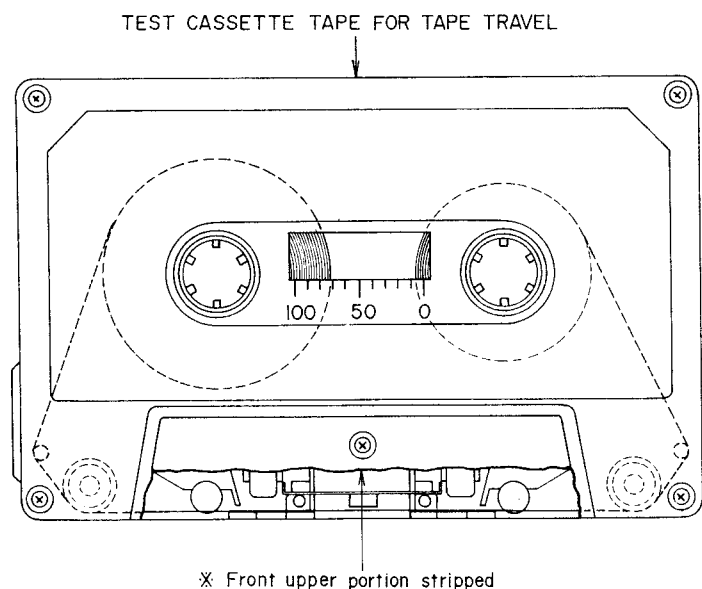

Fig. 5
- 1) When using an ordinary cassette, the tape guides and heads, etc., are not visible. As shown in Fig. 5, use a cassette tape from which the upper part of the cassette case has been stripped off for easy visibility of the head area.